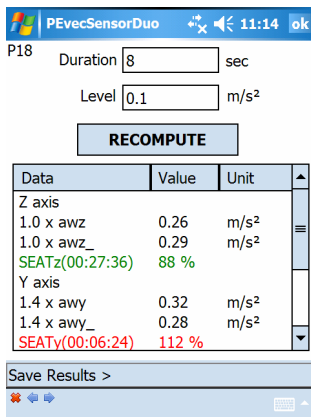

Figure 105: Measurement results (S.E.A.T. factors)
S.E.A.T. factors are displayed (Figure 105).